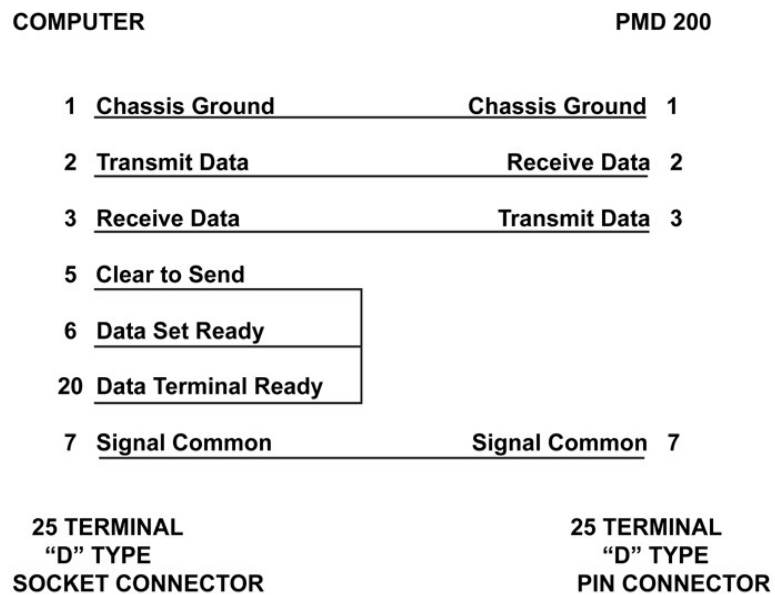

Figure 2-3. Minimum Connections for the * IBM Computer.
* Minimum cable connections for RS-232C communications when control signals for handshaking, etc. are not used. See Figure 2-3 for typical connections.
2. Connect the RS-232 Terminal/Printer Port to a programming terminal (either a dumb or smart terminal or a personal computer with a software program diskette for terminal mode). Refer to Figure 2-3 for cable information.